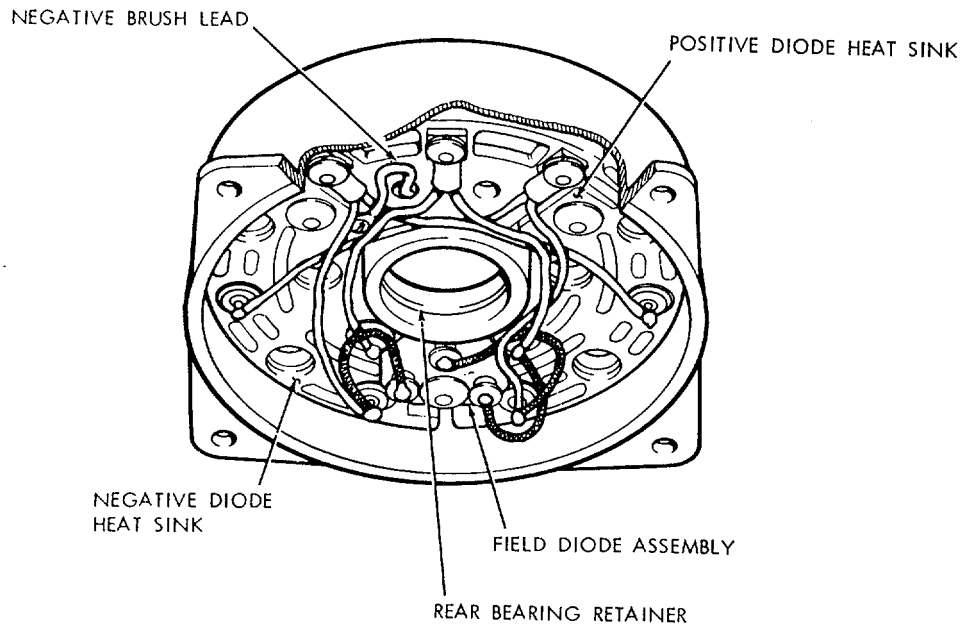

Figure 4-3. Diode installation (hulls 8540-8560 and 8580-8618).
- (1) Separate the stator from the rear section by removing plastic caps (53), hex nuts (52), lockwashers (51), insulating washers (50), and flat washers (49) from the three AC terminals. Remove stator leads and pull the stator assembly from the rear section.
- (2) Remove hex nuts (48), insulator washers (47), and flat washers (46) securing the alternator terminal stud. Remove RFI filter. Remove bolts (27), lockwashers (28), and insulator washers (29).
- (3) Remove negative brush connector lead from negative rectifier heat sink (fig. 4-3).